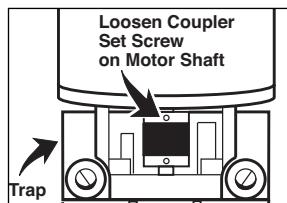
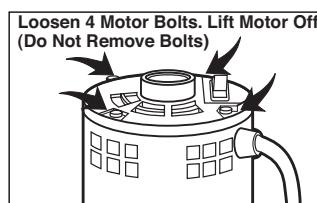
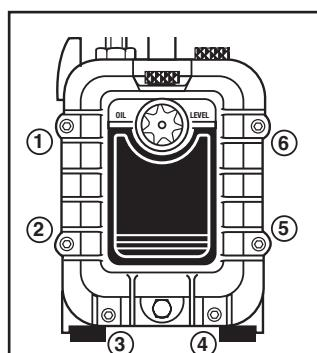
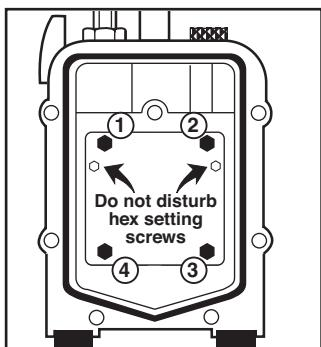

Figure 23
Figure 24
Figure 25
Figure 26
Step 2: Turn coupling until set screws are facing you. With 5/32" or 1/8" allen wrench (depending on model) loosen set screw on motor shaft (Figure 23). Loosen four motor bolts (Figure 24). Remove motor. DO NOT REMOVE BOLTS FROM MOTOR AT ANY TIME. If old cartridge is frozen, i.e. coupler will not turn, remove oil cover (Figure 25) and four cartridge bolts (Figure 26). By turning cartridge, coupler will rotate into position.
Step 3: Loosen set screws on coupler and remove coupling (Figure 23).
Using 3/16" allen wrench remove six socket head cap screws from oil cover (Figure 25).
Remove four cartridge screws with 7/16" or 3/8" wrench (**Figure 26**). Discard old gasket seal and two o-rings along with cartridge and bolts.
Step 3: Replace gasket (**Figure 26**) and reinstall oil cover to trap (**Figure 25**).